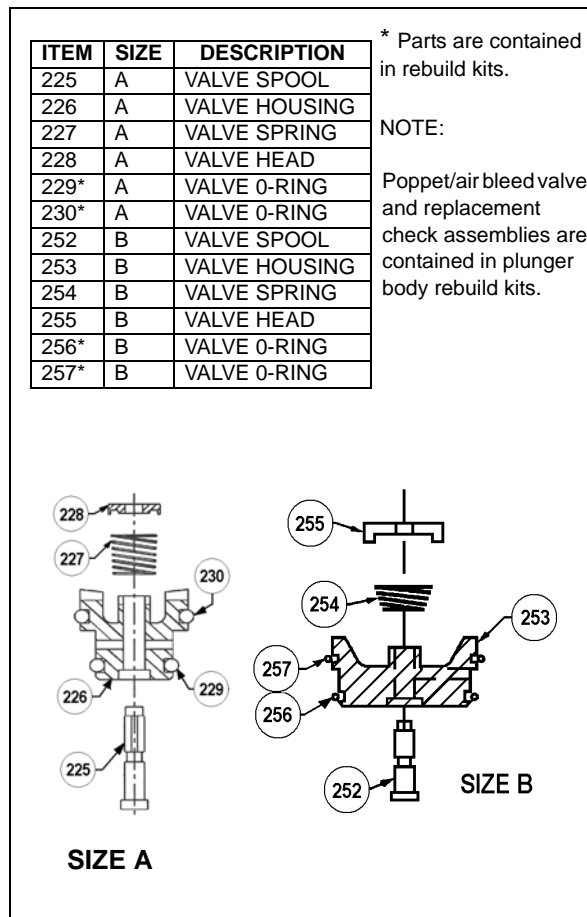

Figure 11. Replenishment Valve Assembly.
21. The face of the valve, item 228/255 should be secured to the spool (item 225/252) via a press fit. The spool should move freely in the valve and easily return to forward position via a conical spring (item 227/254). See Figure 11.